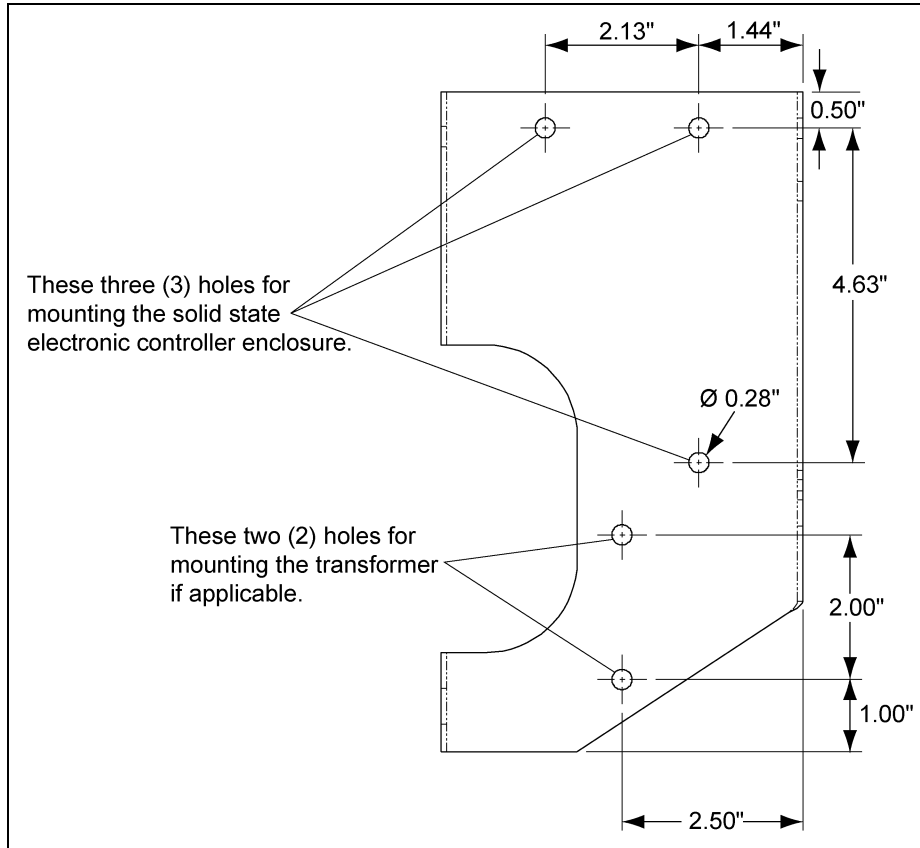

Figure 3 Drilled Hole Layouts
2. Layout and drill three (3) 9/32" diameter holes in the left hand (bin center side) trolley junction box mounting bracket to mount the solid state controller enclosure assembly. Use the dimensions shown in Figure 3 on Page 3 or use the controller enclosure assembly as a template.
3. If the installation is on a 460 volt or 575 volt unit, layout and drill two (2) 9/32" diameter holes in the left hand (bin center side) trolley junction box mounting bracket to mount the transformer to power the Solid State Electronic Tilt Switch and the track drive motor. Use the dimensions shown in Figure 3 on Page 3 or use the bracket, part #106E096 as a template.